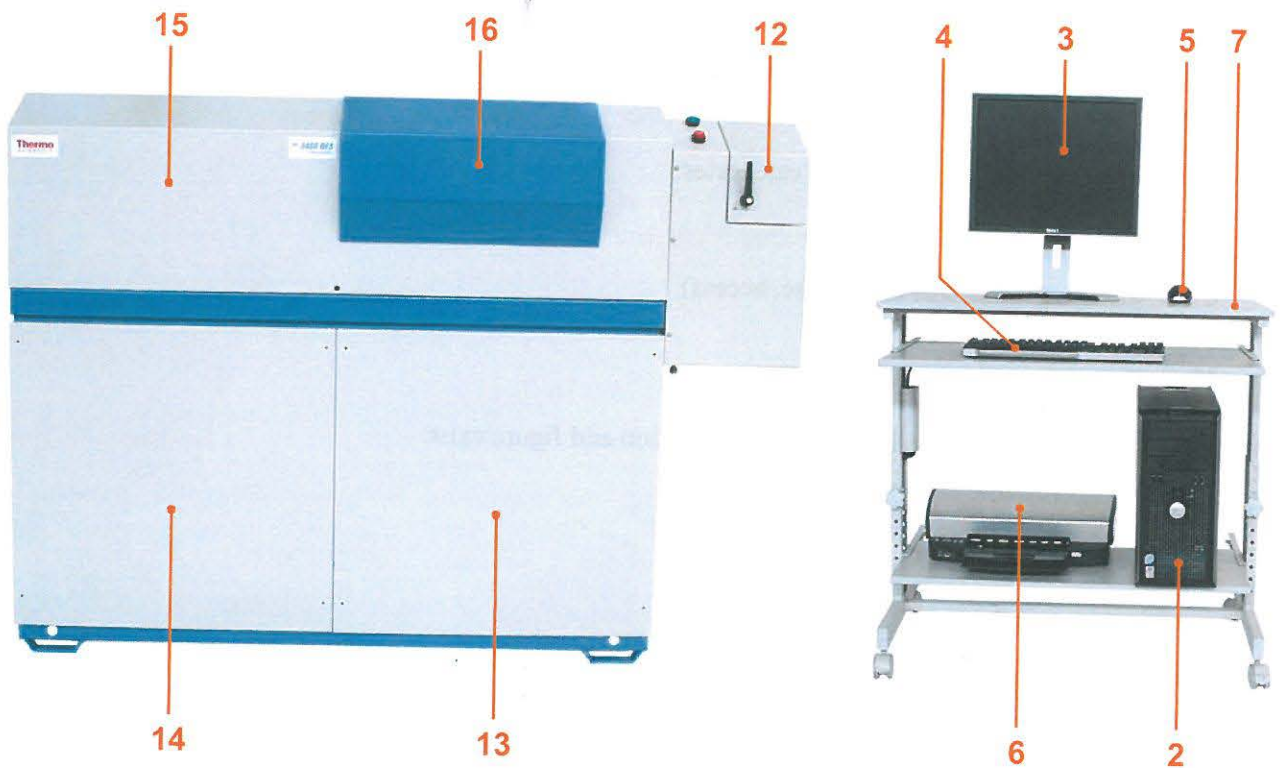

Figure 2.1
The figures 2.1 and 2.2 show two of several alternatives for the arrangement of the complete equipment.
Key to figures 2.1 and 2.2:
U : For access, remove the right-hand panel (figures 2.1 and 2.2, pos. 13) or open it from the back of the instrument.
U : For access, remove the left-hand panel (figures 2.1 and 2.2, pos. 14).
U : For access, remove the right-hand panel (figures 2.1 and 2.2, pos. 13).
For access, open the front panels (figures 2.1 and 2.2, pos. 13 and 14).
M : Check its operation by observing the fans from the front of the instrument, with the front panels removed (figures 2.1 and 2.2, pos. 13 and 14).
For access, lift the keyboard support (figures 2.1 and 2.2, pos. 16).